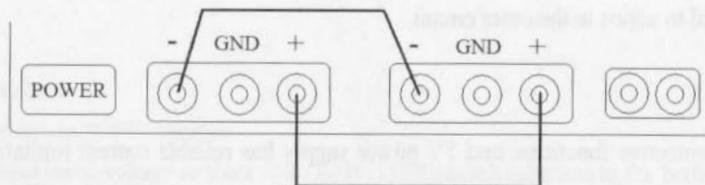

Figure4
- ① When the power supply is used in parallel, please connect the output terminal as Figure4 shows. Depress switch (11) (i.e. position) switch (12) also pressed (i.e. position) at this moment, the two ways of power supply are in parallel, regulation the voltage regulation knob(21) of the main power supply, then the two output voltages are the same. Concurrently, the subordinate current regulation indicator light (6) is on.
- ② When the two ways of power supply are in parallel, the current regulation knob (4) of the subordinate power supply will not work. When the power supply is used as current regulation power supply, only the main current regulation knob (20) needs to be regulated, at this moment, the output current of the main and subordinate leads will be controlled and they are the same. The maximum output current can reach the total amount of currents of the two leads.
- ③ When the two ways of power supply are in parallel, if there is power output, the corresponding lead of the application power and output power will reliably connects the positive terminals of the main and subordinate ways and the negative terminals of the main and subordinate ways so as to make load reliably connects the output terminals of the ways. Otherwise, if the load is only connected to output terminal of one way power supply, it will probably cause the imbalance of the output current in the two ways of power supply, at the same time, and it may cause damage to the switches of series circuit and parallel circuit.